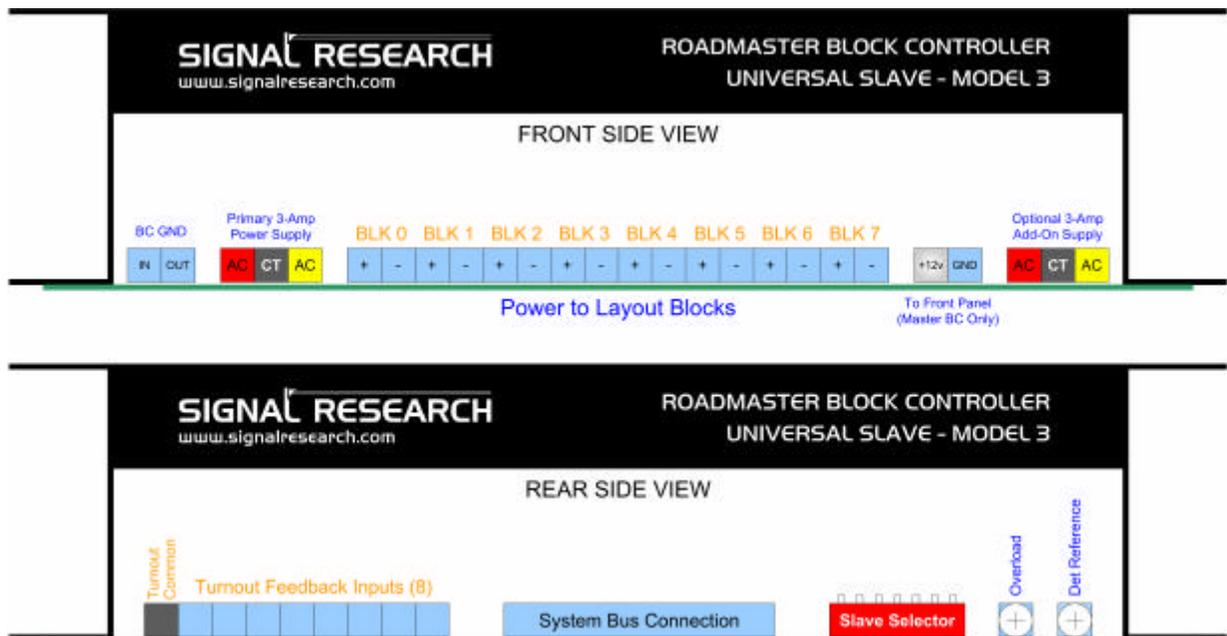

Figure 4. Block Controller Inputs / Outputs
Each Block Controller (BC) has 16 block outputs; two connections per block as shown in Figure 4. They are labeled block 0 through 7 with orientation 0 and 1. Standard wiring practices are encouraged. For N scale, 18 gauge wire as a minimum is recommended for primary feeders; 16 gauge wire for HO. Use smaller wire for feeder to track connections. If there is more than one BC, connect the second and any subsequent BCs to each other with the provided BC data bus cable.